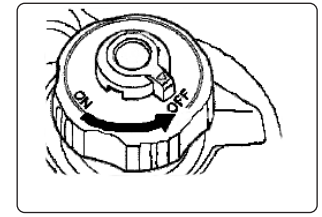

fig.14
- 6.4.6. Turn the fuel tank cap air vent knob to “OFF” fig.14 after the engine has completely cooled down.